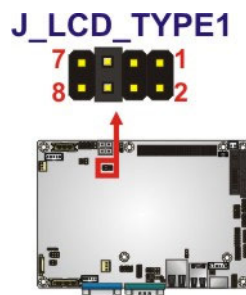

Figure 4-10: LVDS1 Screen Resolution Jumper Location
- Jumper Location:** See Figure 4-10